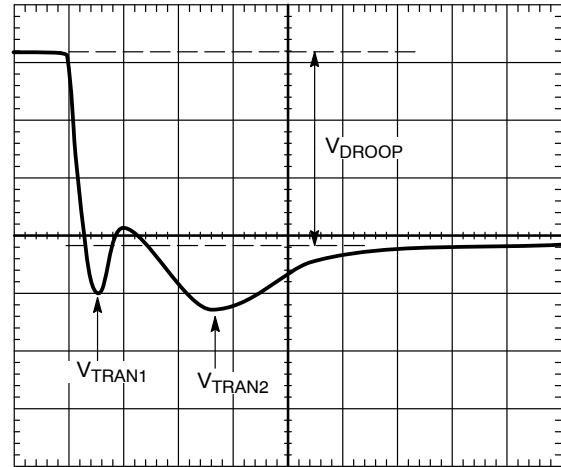

Figure 15. Transient Setting Waveform
18. With the dynamic load still set at the maximum step size, expand the scope time scale to either 2 μ s/div or 5 μ s/div. The waveform can have two overshoots and one minor undershoot (see Figure 15). Here, V_{DROOP} is the final desired value.